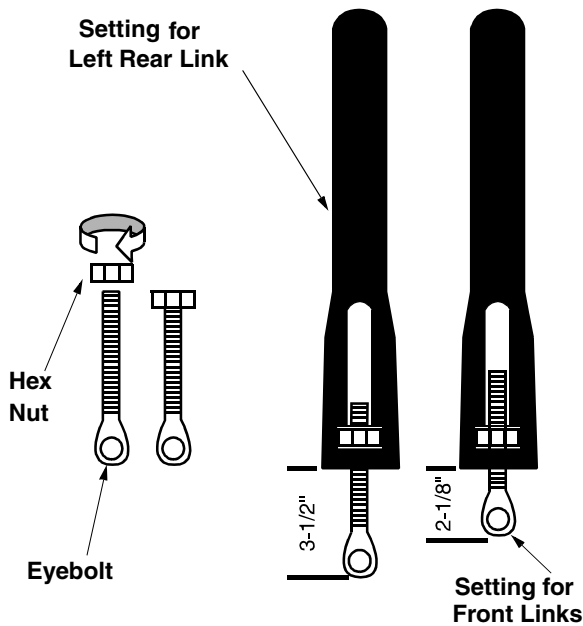

Figure 5
- Start 1/2" hex nuts on eyebolts until nuts are flushed with ends of eyebolts. See Figure 5.
- Insert eyebolts and hex nuts into the adjustable lift links located under the tractor. See Figure 5.
- Thread eyebolts into the lift links and hex nuts. The left rear link should be adjusted so the eyebolt hangs about 3-1/2 inches below the lift link. The two front links should be adjusted so the eyebolts hang about 2-1/8 inches below the lift links. See Figure 5.